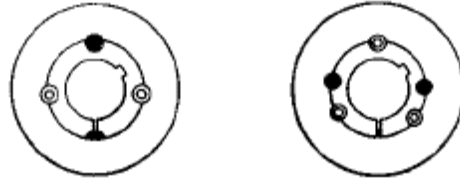

Fig. 10-5 Pulley holes
3.- Fit the bush into the hole in the pulley, taking care to align the threaded half-holes on the pulley with the unthreaded half-holes on the bush (Photo 32). There may be 2 or 3 of these holes (Fig. 10-5), as can also be seen in Chart 9.1, depending on pulley size.